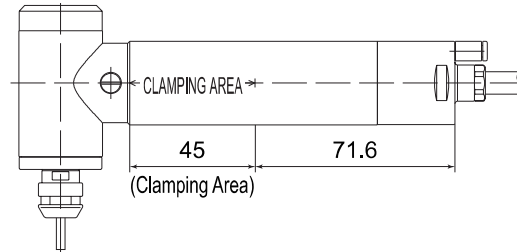

Fig. 13
- ① When mounting a Brushless Motor Spindle, refer to the Clamping Area etched on the Brushless Motor Spindle (Fig. 13).